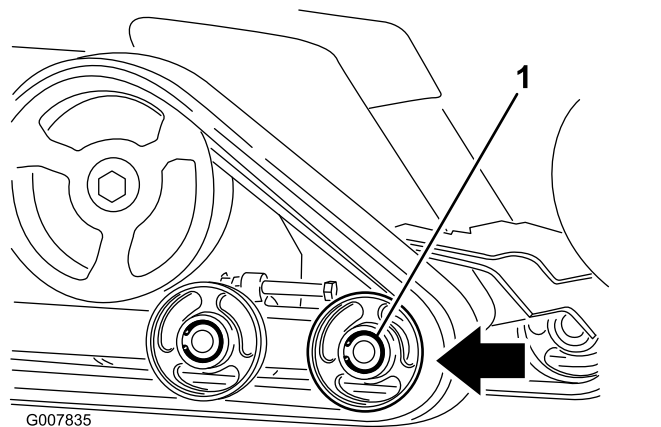

Figure 44
6. Push the front road wheel rearward as far as it can go (**Figure 44**).
8. When the track is off the road wheel, remove it from the machine (Figure 44).
9. Beginning at the drive wheel, coil the new track around the wheel, ensuring that the lugs on the track fit between the spacers on the wheel (Figure 44).
10. Push the track under and between the rear and center road wheels (Figure 44).